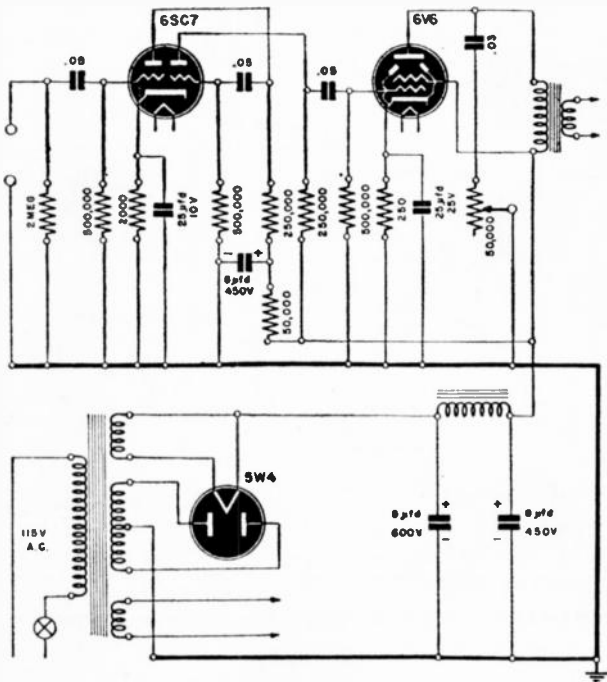

Fig. 403
A. The diagram in Fig. 403 uses your tubes and combines satisfactory gain with small size. Circuit shown is for input from a crystal pickup. If a magnetic pickup is used, the 2-meg resistor, the 0.5- μ f blocking condenser, and the $\frac{1}{2}$ -meg grid leak may be omitted and the secondary of the pickup transformer connected directly from the grid to ground.